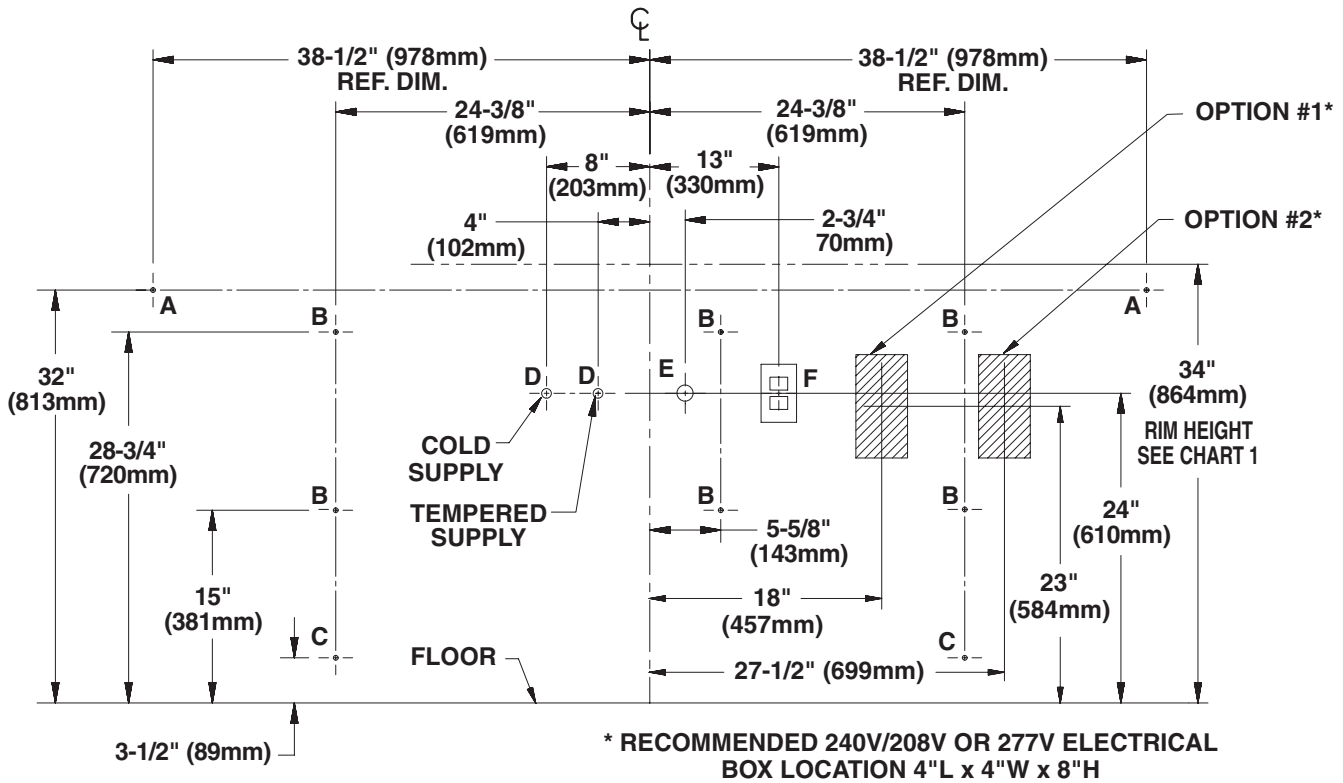

Figure 1
IMPORTANT: Dimensions shown in Figure 1 on page 6 are for a Standard and Wall-Hung Pedestal Express® only. Make sure to follow appropriate dimensions based on configuration and required rim height. See Charts 1 and 2 on page 6 prior to beginning rough-ins.
4. Install the 110 volt GFCI electrical outlet per local code at the location shown in Figure 1.
5. Install six to eight 3/8" wall anchors with a minimum pull-out rating of 1,000 lbs. (supplied by installer) at the locations shown in Figure 1.
6. On the back of the bowl, measure the distance between the 3/4" bowl mounting holes. Divide this measurement in half. Measure and mark this dimension on the wall to the left of the centerline and to the right of the centerline. Install two 3/8" wall anchors with a minimum pull-out rating of 1,000 lbs. (supplied by installer) at the locations marked (ref. location "A" shown in Figure 1).